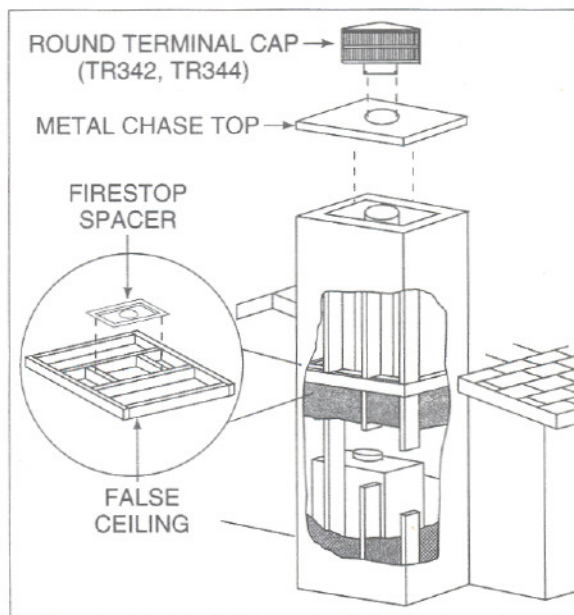

Figure 20
5. In cold climates, the walls of the chase should be insulated to the level of the false ceiling as shown in Figure 20. This will help prevent heat loss from the home around and through the fireplace.